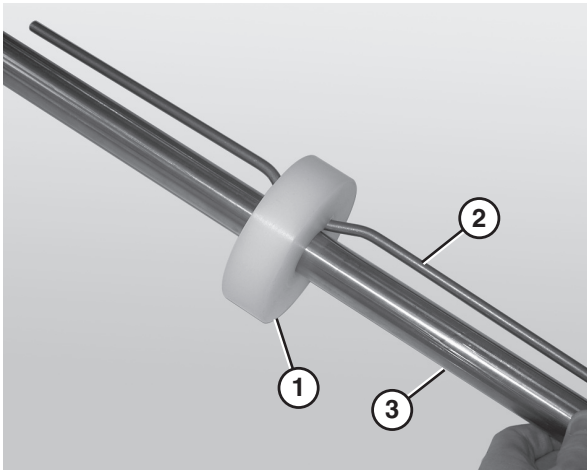

Figure 87
1. Place the idler puck (Figure 87, item 1) at the center of the bent retaining bar (Figure 87, item 2).
2. Slide the idler puck onto the idler shaft (Figure 87, item 3). Make sure to center the idler puck.